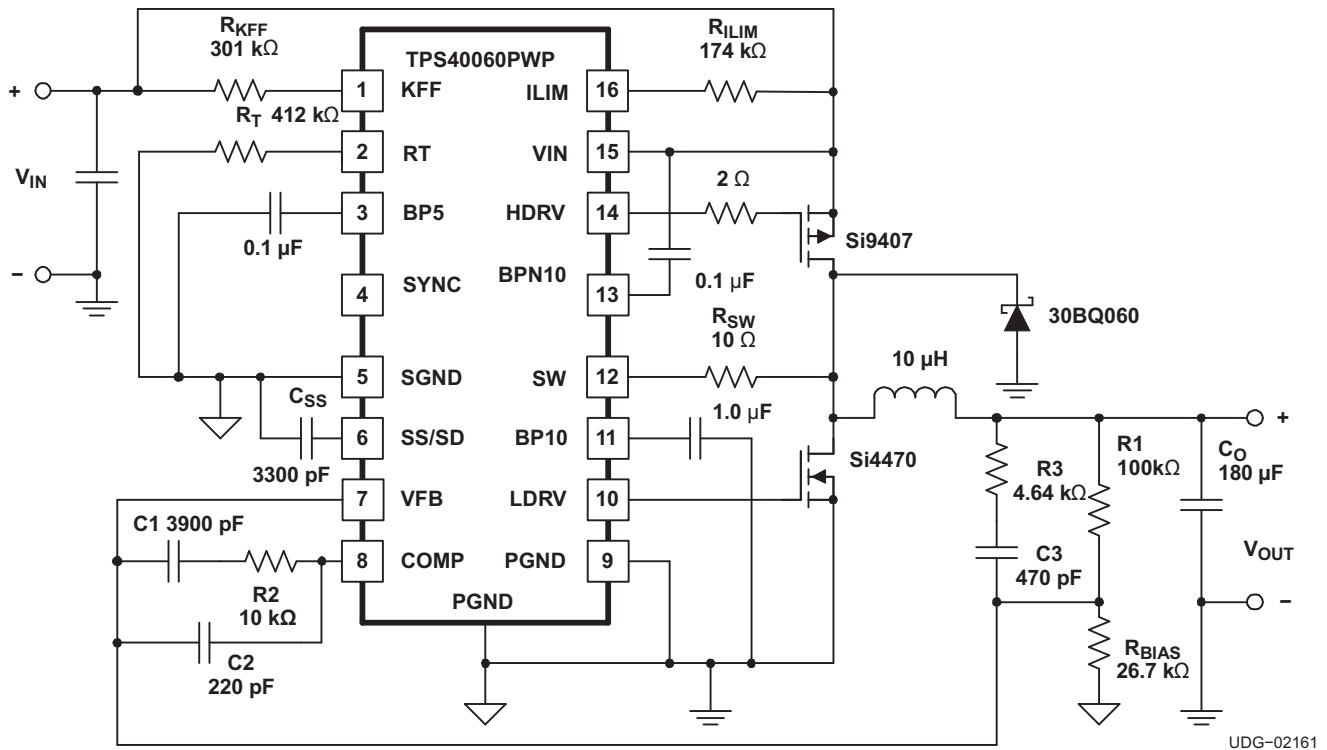

Figure 14. Design Example, 48 V to 3.3 V at 5 A dc-to-dc Converter
For this application, a 0.1- μF capacitor was used for the BPN10V and a 1.0- μF was used for the BP10V bypass capacitor. Figure 14 shows component selection for the 18-V through 55-V to 3.3-V at 5-A dc-to-dc converter specified in the design example.
- Changed reference to Figure 13, PowerPad Dimensions, to Figure 14, Design Example, 48 V to 3.3 V at 5 A dc-to-dc Converter 7 - Changed both ($C_{SS} - 0.85\text{ V}$) voltages to ($V_{CSS} - 0.85\text{ V}$) in Programming Soft Start 10 - Changed turn-on (I_L) to start-up (I_{LOAD}) in the third paragraph of Programming Current Limit section. 11 - Changed first instance of BPN10 to BP10 in respective section title. 11 - Added high-side before MOSFET in the Calculating the BP10 and BP10V Bypass Capacitor section 12 - Changed HDRV signal goes high to ...goes low in the Synchronizing to an External Supply section 13 - Added equation definition for f_{SYNC} to Equation 10 13 - Deleted k from KΩ at the end of equation Equation 11 13 - Added (dummy) to R_T in Equation 11 definition 13 - Changed sequence of equation substitutions from: Equation 14 into Equation 13, Equation 16 into Equation 15, Equation 13 equal to Equation 15, to: Equation 15 into Equation 14, Equation 17 into Equation 16, Equation 14 equal to Equation 16 14 - Added generic before modulator gain in first paragraph of the Loop Compensation section 14 - Deleted with V_{IN} being the minimum input voltage required to cause the ramp excursion to cover the entire switching period. from first paragraph of the Loop Compensation section 14 - Deleted previous Equation 19, which was $A_{MOD} = V_{IN} / V_S$ or $A_{MOD(dB)} = 20 \times \log(V_{IN} / V_S)$ 14 - Changed figure reference for modulator gain in the Loop Compensation from Figure 6 (Typical Current Limit Protection Waveforms) to Figure 8 (PWM MODULATOR RELATIONSHIPS) 14 - Added modulator DC gain and new Equation 20 to Loop Compensation section 15 - Changed V_{OUT} to V_O in sentence before and in Equation 23 15 - Changed calculated in to set by in sentence before Equation 24 15 - Changed V_{IN} / V_S to $V_{IN(min)} / V_{RAMP}$ in the Modulator Gain vs Switching Frequency graph 15 - Changed the TC_R minimum value from 0.0035 to 3500 and the maximum from 0.010 to 10000 in the second paragraph of the High-Side MOSFET Power Dissipation section 17 - Changed V_{DD} to V_{IN} in Equation 41 19 - Changed PowerPAD Dimensions to include x and y axis values 20 - Added high-side MOSFET to step four title 22 - Changed reference to substituting Equation 30 to Equation 47 22 - Deleted $I_{RMS}^2 \times R_{DS(ON)}$ from synchronous MOSFET conduction equation 23 - Changed synchronous MOSFET conduction equation equals value from 0.10 to 0.485 23 - Changed body diode conduction equation values: 100 ns to 50 ns and 0.104 W to 0.052 W 23 - Changed power dissipation equation values: 0.1 to 0.485, 0.104 to 0.052, 0.311 W to 0.644 W 23 - Changed junction temperature equation values: (0.311) to 0.644, 97°C to 111°C 23 - Changed Step 6 reference to Equation 11 to Equation 12 23 - Changed inductor value equation in Step 6: replaced value of 48 with 55 and 11.8 with 11.9 23 - Changed R_{KFF} equation values in Step 8: 133.7 to 309 kΩ, 133 to 301 kΩ 23 - Added 80%$\times$ before $V_{IN(min)}$ in R_{KFF} equation in Step 8 23 - Changed first ESR value in Step 9 from 12.7 to 8.9 mΩ 24 - Changed second ESR value in Step 9 from 13.8 to 11.1 mΩ 24 - Changed DC modulator gain values in both equations: 10 to 18, 5 to 9; (5.0) to 9, 14 to 19 dB 24 - Changed AMOD crossover frequency equation values: 5 to 9, 0.68 to 1.23 25 - Changed gain (G) equation values: 0.68 to 1.23, 1.46 to 0.81 25 - Changed poles and zeros equation values: Equation 73, 73.3 to 73.7 kHz, 4.62 to 4.59 kΩ; Equation 74, 3.29 to 0.81, 1.46 to 10 kHz, 109 to 196 pF, 100 to 220 pF; Equation 75, 100 to 200 pF, 73.3 to 73.7 kHz, 21.7 to 9.82 kΩ,